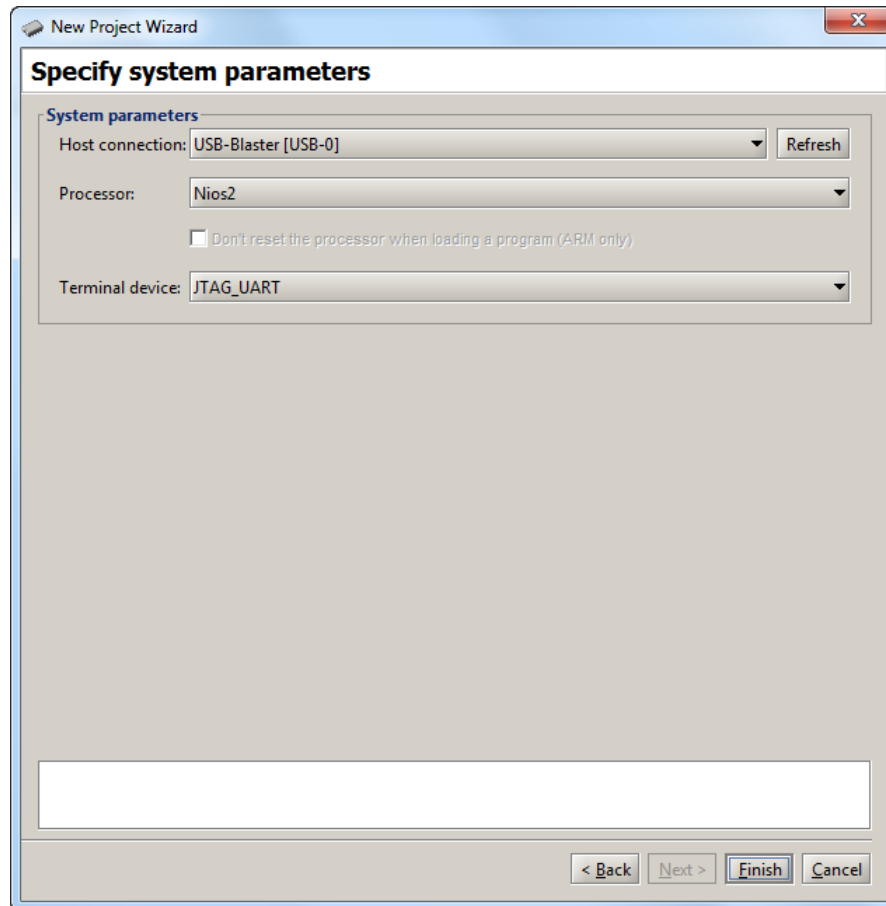

Figure 24. Check physical connection between the host computer and the DE2-115 board.
8. In the window in Figure 24, if the physical connection exists between the host computer and your DE2-115 board you should see **USB-Blaster [USB-0]** under the Host Connection drop-down list. Otherwise, you should check the connection and make sure that the USB-Blaster driver is correctly installed. Then click **Finish**.